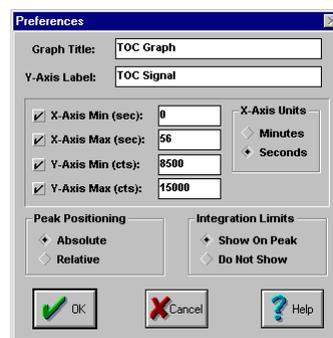

Figure 5.3. TOC Reporter Preferences screen
9. To change the graph's appearance, click **OK** to close the Statistics screen. Go to the **File** menu and select **Preferences**. This will access the TOC Reporter Preferences screen (Figure 5.3.). The TOC Reporter Preferences screen modifies the appearance of the active (selected) graph window in the TOC Reporter screen.